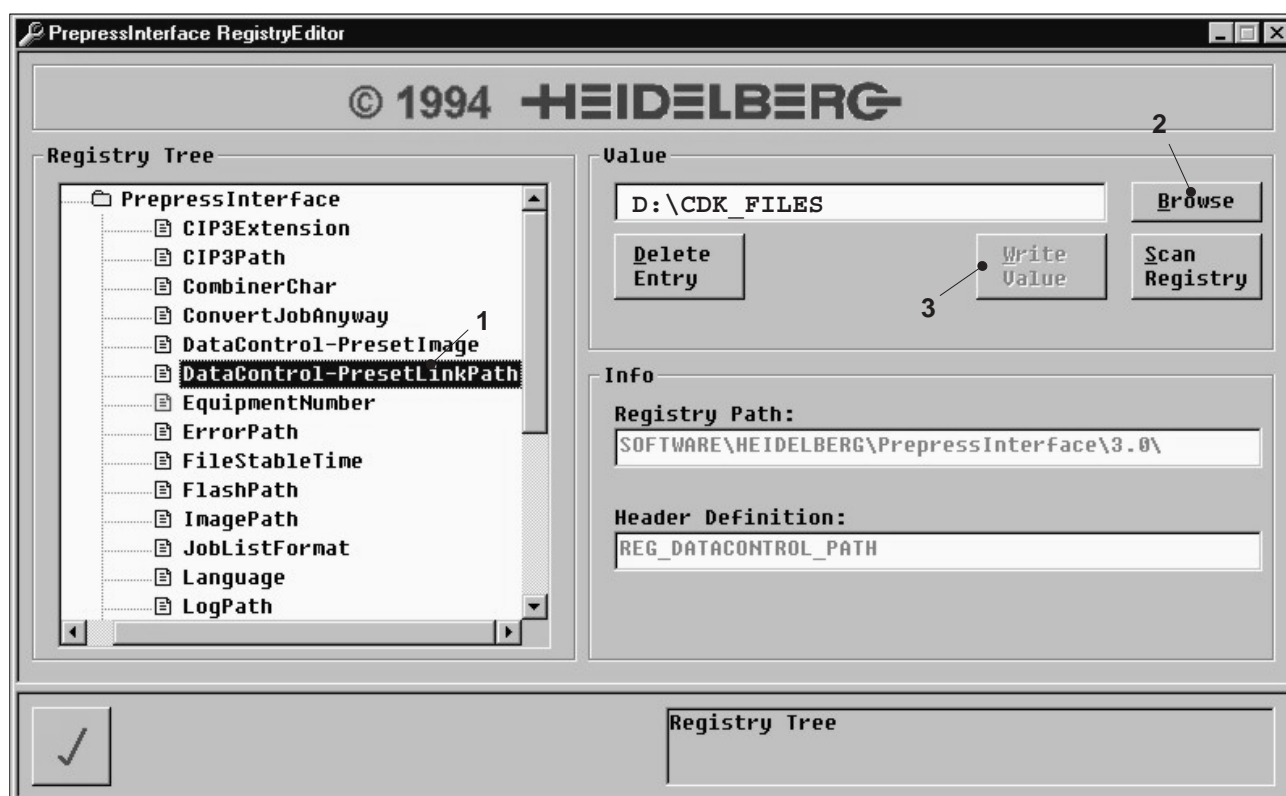

Fig. 14 RegistryEditor
- ② In the directory **PrepressInterface** click on the entry **DataControl-PresetLinkPath** (Fig. 14/1).
- ③ Click on the **Browse** button (Fig. 14/2).
- ④ Double click on the directory **D:\CDK_FILES**.
- ⑤ Click on the ☒ button.
- ⑥ Click on the **Write Value** button (Fig. 14/3).
- ⑦ Terminate the "RegistryEditor" by clicking on the ☒ button or on the ☒ button.
- ① To start the program PrepressInterface: click on the buttons **Start>Programs>Prepress-Interface>Prepressinterface**.
- ② Process the **ppf** file.
- ③ Check the file: